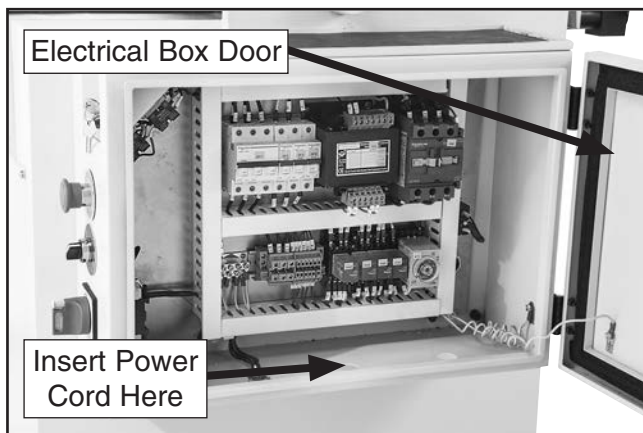

Figure 19. Location of electrical box and power cord access hole.
1. Open electrical box door (see **Figure 19**) with included key.
2. Insert incoming power cord and strain relief (both sold separately) through bottom of electrical box where shown in **Figure 19**.